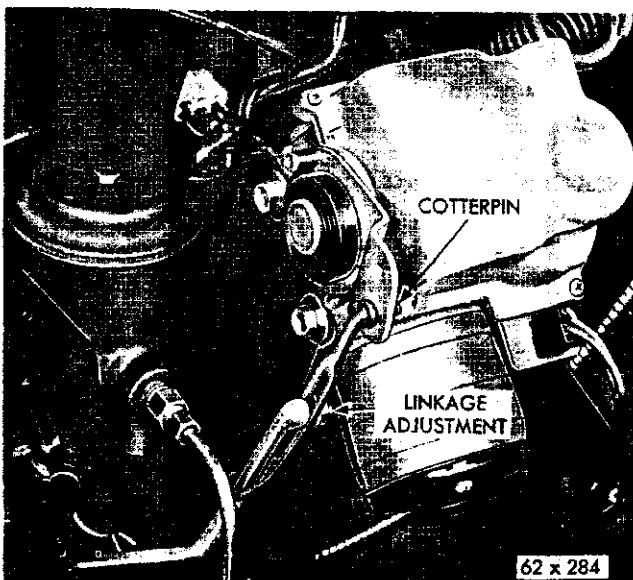
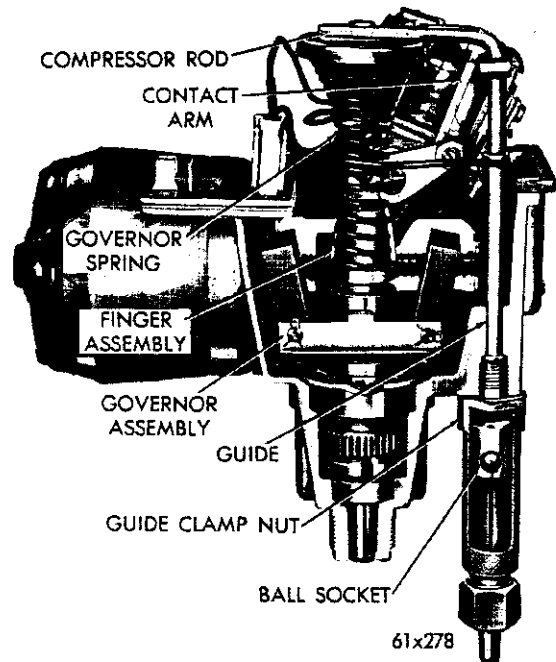
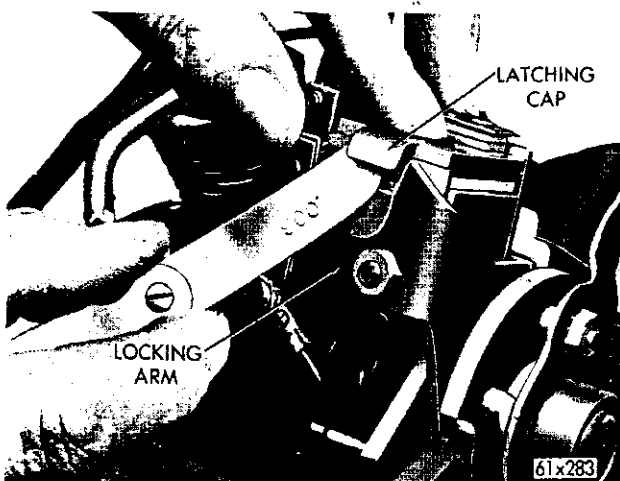

Fig. 33—Linkage Adjustments
Fig. 34—Governor Assembly (Cut Away View)
Fig. 36—Measuring Clearance Between Locking Arm
Internal working parts of the auto-pilot are equipped with self-lubricated bearings, shielded ball bearings, or have been factory lubricated for the service life of the unit. When any internal service is performed, the drive screw worm (Fig. 33) and compressor rod (Fig. 34) should be lubricated lightly with MoPar lubriplate.
- (1) Remove the cotter pin from the link stud and remove the link stud from the armature lever (Fig. 33.)
- (2) Insert the sleeve gauge Tool C-3844 over the gauge bolt and hold the armature lever securely against the sleeve gauge (Fig. 33).
- (1) Disconnect the accelerator linkage rod from the armature lever (Fig. 33).
- (2) Remove the Auto-Pilot drive mechanism cover.
- (3) Turn the ignition "ON". Do not start the engine.
- (4) Move the locking arm against the magnet and push the latching cap down to lock the magnet assembly and locking arm together.
(5) Use a feeler gauge to measure the clearance between the locking arm and latching cap (Fig. 36). The clearance should be .001" to .006". If less than .001" clearance, loosen the lock nut. (Fig. 36.) Turn the adjusting screw "counterclockwise" to obtain proper clearance. If more than .006" turn the adjusting screw "clockwise". Tighten the lock nut.
- (6) Turn the ignition "OFF" and replace the cover.
the Auto-pilot by removing the clamp nut and dust shield, and unhook the ball on the end of the wire from the ball socket. (Fig. 34).